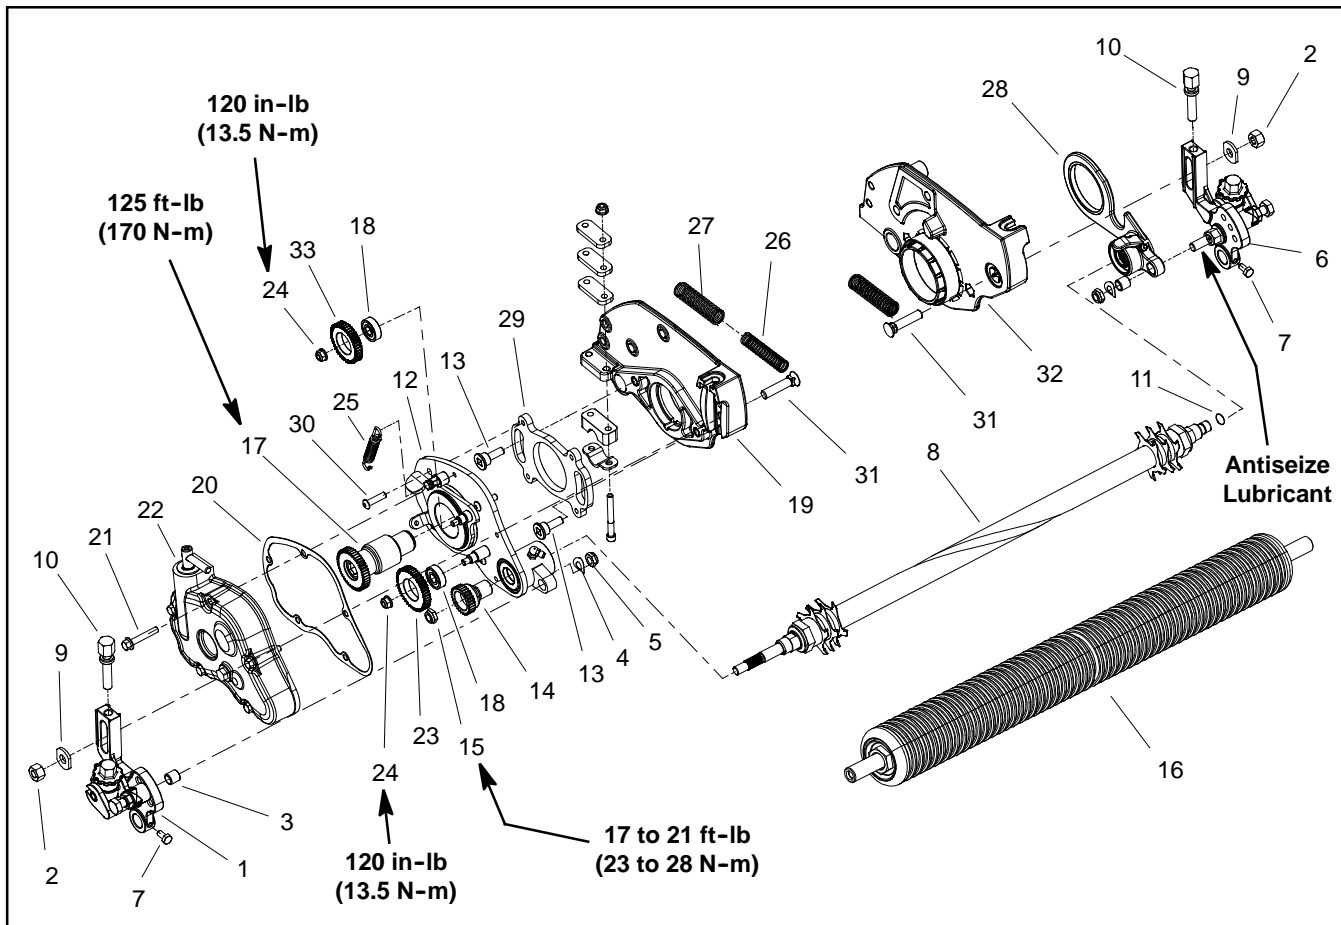
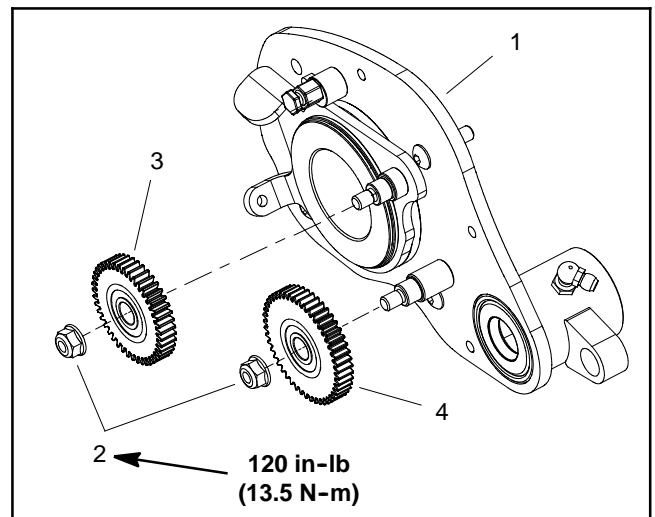
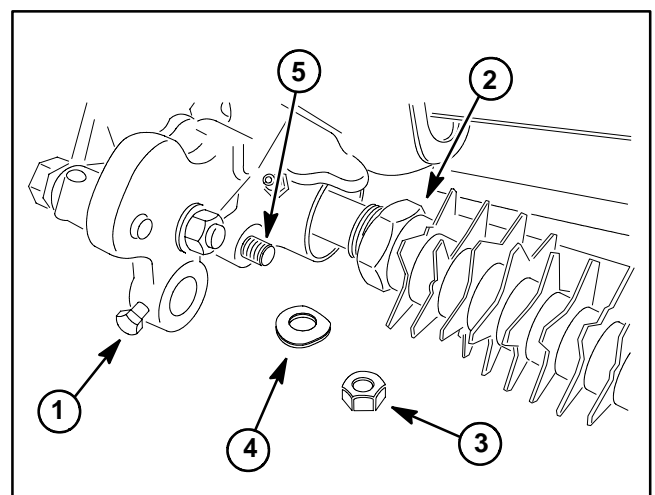

Figure 10
Figure 12
Figure 13
### Removal (Fig. 10)
6. Remove the two (2) idler gears (43T and 47T) from the RH drive plate assembly (Fig. 12). The bearings are pressed into the gears.
7. Loosen cap screws (item 7) that secure front roller shaft to groomer arms.
8. Remove lock nut and spring washer that secure RH groomer arm lift rod to RH drive plate assembly (Fig. 13).
9. Remove HOC nut (item 2), HOC washer (item 9) and plow bolt (item 31) that secure RH groomer arm assembly to RH drive plate assembly. Do not change height-of-cut screw adjustment. Remove RH groomer arm assembly from cutting unit.
**NOTE:** To prevent grooming reel shaft from turning when removing driven gear (item 14), use wrench on shaft flats to hold shaft.
11. Remove the lock nut (item 15) that secures driven gear (item 14) to grooming reel shaft. Remove driven gear from shaft.
**NOTE:** To prevent cutting reel from turning when removing groomer drive gear (item 17), block reel with piece of wood.
12. Loosen and remove groomer drive gear (item 17) from the cutting reel shaft.
13. Remove four (4) button head screws (item 30) that secure the RH drive plate assembly (item 12) to the support plate on the cutting unit frame. Remove the RH drive plate assembly from grooming shaft and cutting unit.
**Installation (Fig. 10)**
2. Make sure that O-ring (item 11) is installed on grooming reel shaft. Apply light coating of grease to O-ring.
5. Carefully slide RH drive plate onto grooming reel shaft taking care to not damage seals in drive plate. Position drive plate to the support plate on the cutting unit frame and secure with four (4) button head screws (item 30). Make sure that drive plate rotates freely after installation.
6. Install driven gear (item 14) onto grooming reel shaft:
A. Apply light coating of grease to hub on driven gear (item 14).
C. Secure gear to shaft with lock nut (item 15). Torque lock nut from **17 to 21 ft-lb (24 to 28 N-m)**.
**NOTE:** To prevent cutting reel from turning when installing groomer drive gear (item 17), block reel with piece of wood.
7. Secure groomer drive gear (item 17) to cutting reel shaft. Torque gear to **125 ft-lb (170 N-m)**.
8. Install the two (2) idler gears (43T and 47T) to RH drive plate assembly (Fig. 12). Secure gears with flange nuts and torque flange nuts **120 in-lb (13.5 N-m)**.